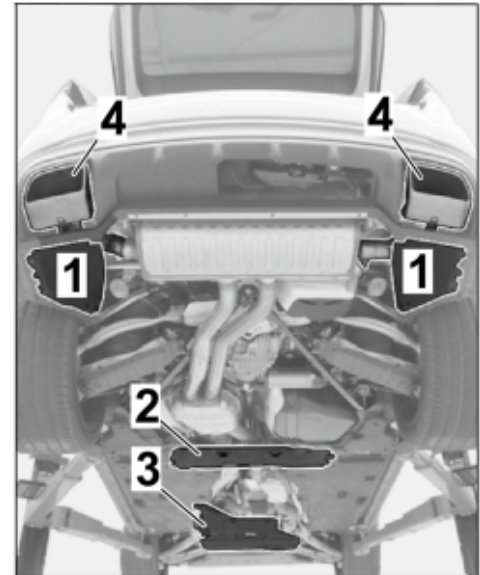

Figure 7
- 1.3.4 Remove front underbody cover (rear section) (⇒ Figure 7 -3-). ⇒ Workshop Manual '51921900 Removing and installing front underbody cover'
1.5.1 Remove rear underbody cover and rear tunnel cover (⇒ Figure 7 -1 and 2-). ⇒ Workshop Manual '519419 Removing and installing rear underbody cover'
1.5.2 Remove tailpipe (left / right) (⇒ Figure 7 -4-). ⇒ Workshop Manual '263419A2 Remove and install tailpipe - TB5'